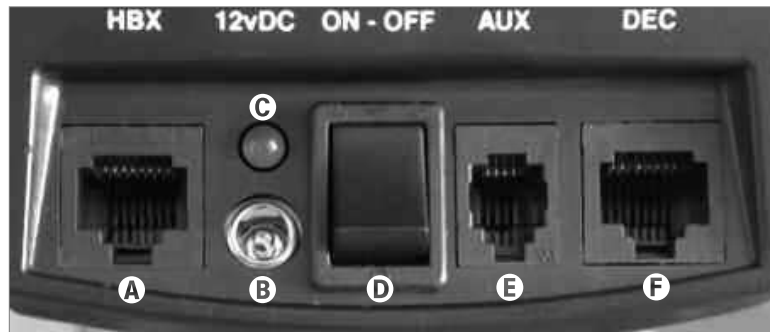

Fig. 1e: The LX75-Series Computer Control Panel (see 10 above).
- 24 **Computer Control Panel (see Fig. 1e):**
- 38 **Variable Height Tripod Legs (3):** Supports the telescope mount. The mount attaches to the top of the tripod.
- 41 **Battery Pack and holder (see Fig. 1f):** Plug into the 12v DC power connector (B, Fig. 1e) of the computer control panel. Insert 8 (user-supplied) D-cell batteries to power motor drives and Autostar handbox.